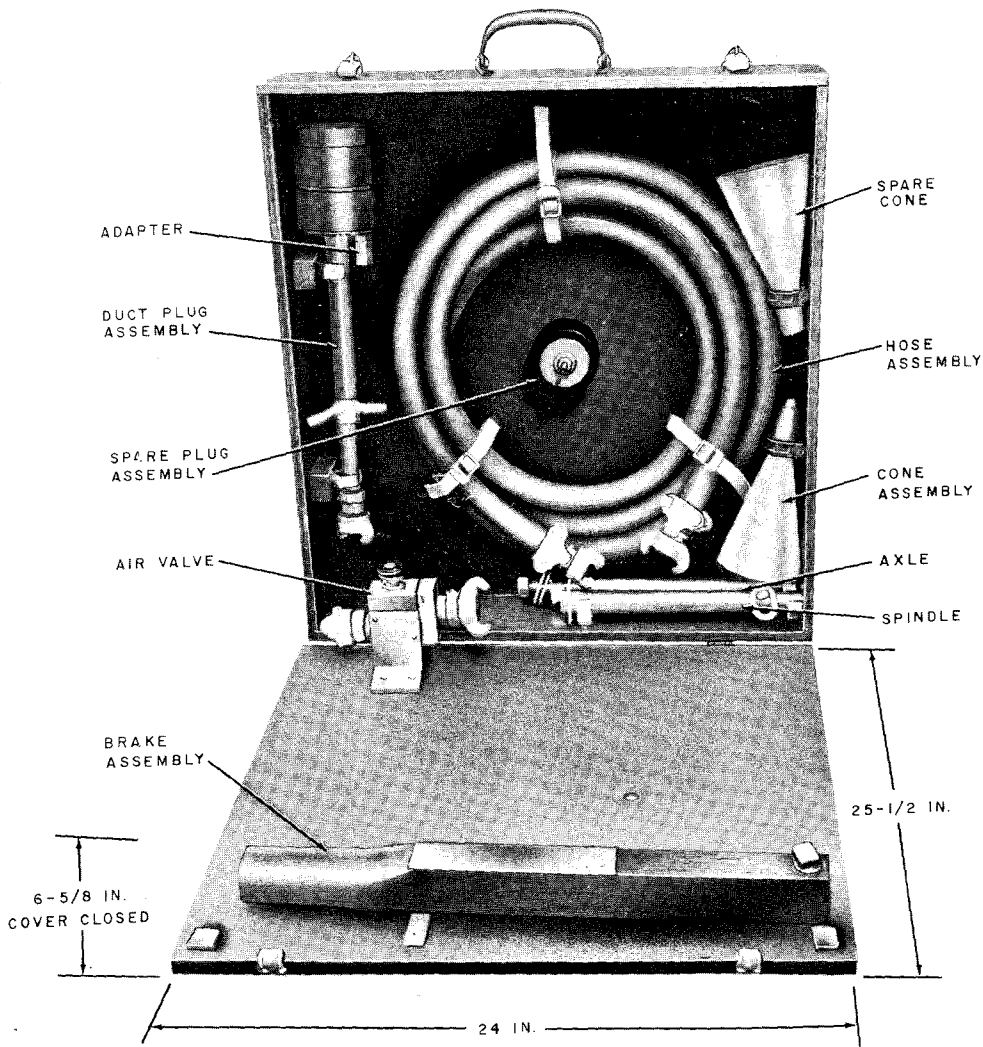

Fig. 1—B Fishline Kit
2.01 The B Fishline Kit is illustrated in Fig. 1. The kit is comprised of a plywood platform or base, and a removable cover containing the various parts of a pneumatic rodding tool. Mounted in a manner so as to be easily removable are the